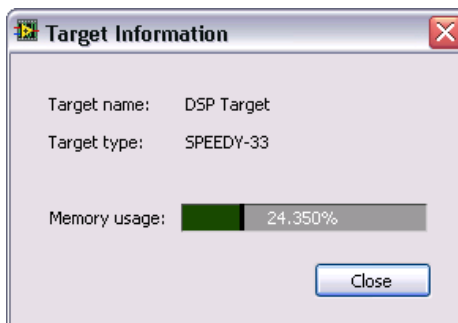

Figure 16. Viewing Memory Usage While the DSP Application Is Running
4. While the DSP application is running, right-click **DSP Target** in the **Project Explorer** window and select **Utilities»Target Information** from the shortcut menu to open the **Target Information** dialog box shown in Figure 16. The **Target Information** dialog box provides information about memory usage on the DSP target.